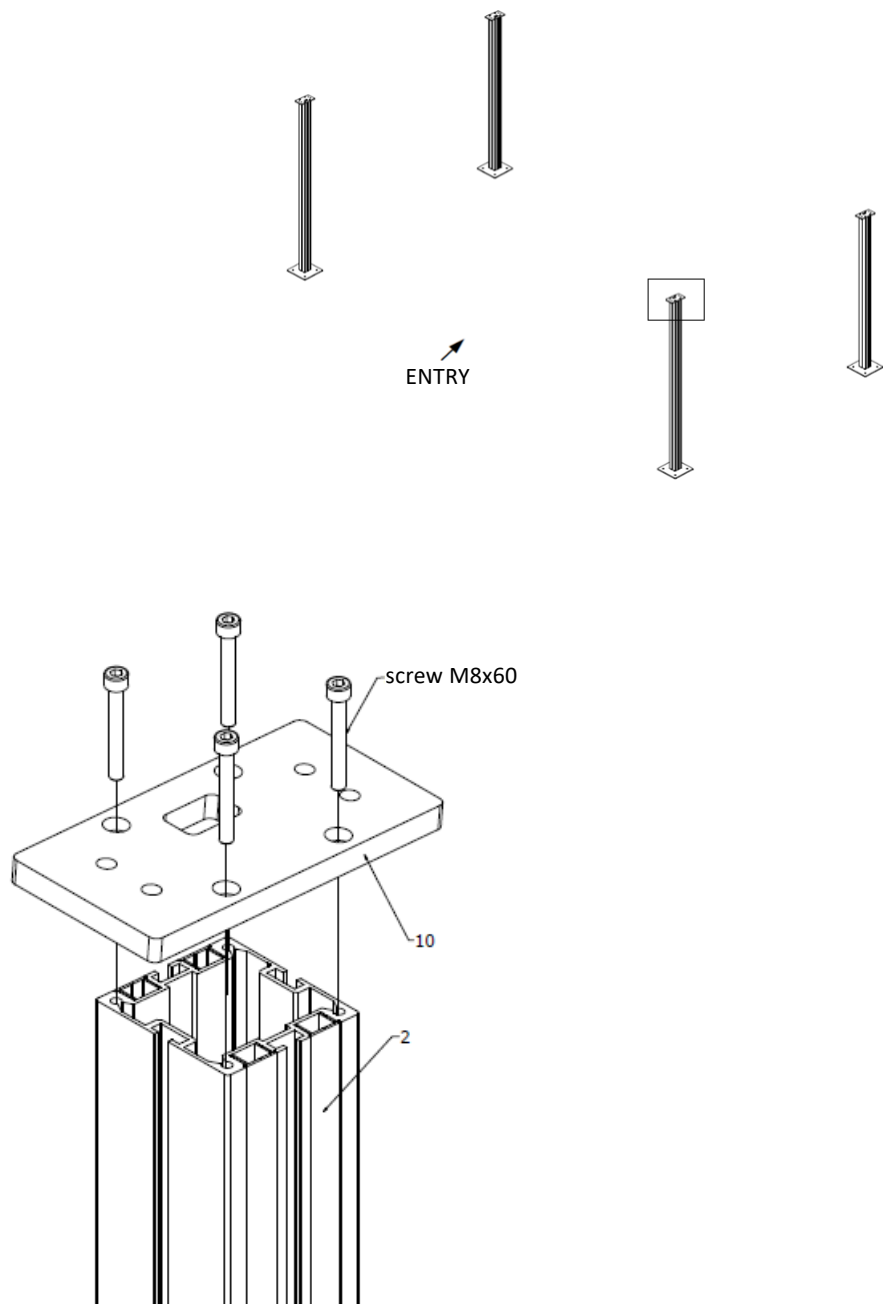

Figure 6. Method of mounting the pole connector with the pole
- Fix column connectors in the upper parts of the columns using mounting kit no. 3 (figure 6).